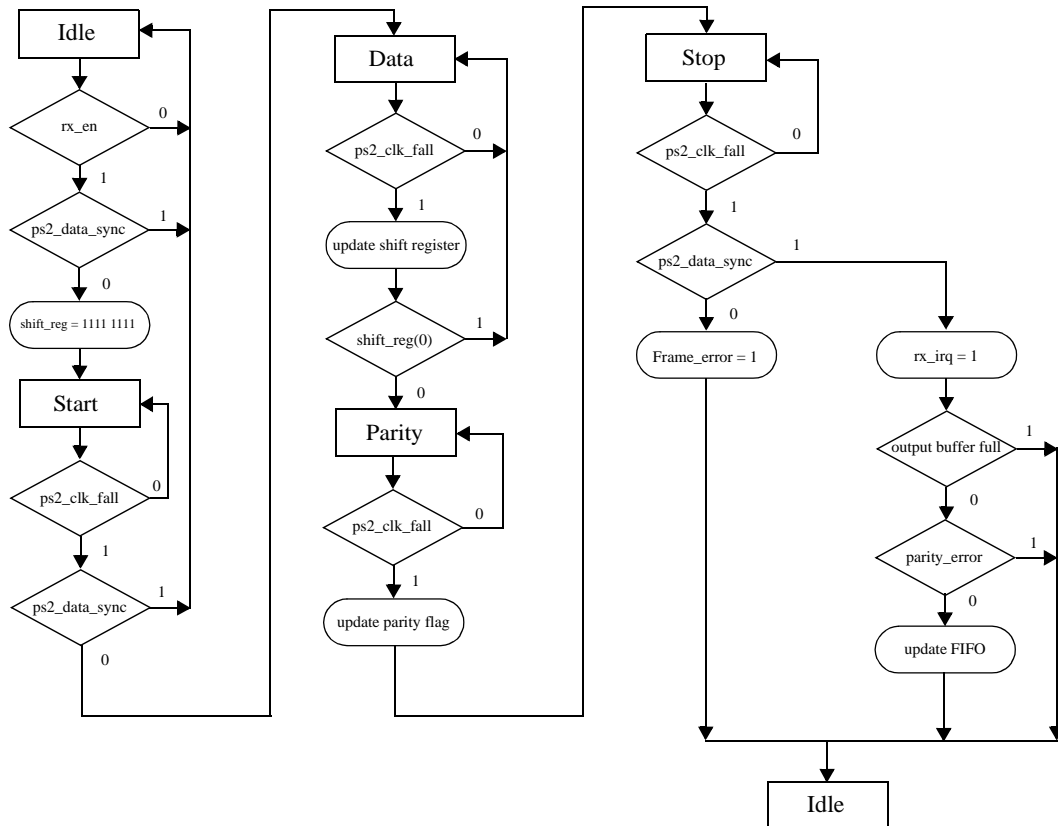

Figure 24. Flow chart for the receiver state machine
The receiver of APBPS2 receives the data from the keyboard or mouse, and converts it to 8-bit data frames to be read out via the APB bus. It is enabled through the receiver enable (RE) bit in the PS/2 control register. If a parity error or framing error occurs, the data frame will be discarded. Correctly received data will be transferred to a 16 byte FIFO. The data ready (DR) bit in the PS/2 status register will be set, and retained as long as the FIFO contains at least one data frame. When the FIFO is full, the receiver buffer full (RF) bit in the status register is set. The keyboard will be inhibited and buffer data until the FIFO gets read again. Interrupt is sent when a correct stop bit is received then it's up to the software to handle any resend operations if the parity bit is wrong. Figure 24 shows a flow chart for the operations of the receiver state machine.